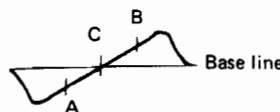

Fig. 19
2. Use the T202 core to form the S-curve shown in Figure 19. Adjust the symmetry of A and B about point C for linearity.